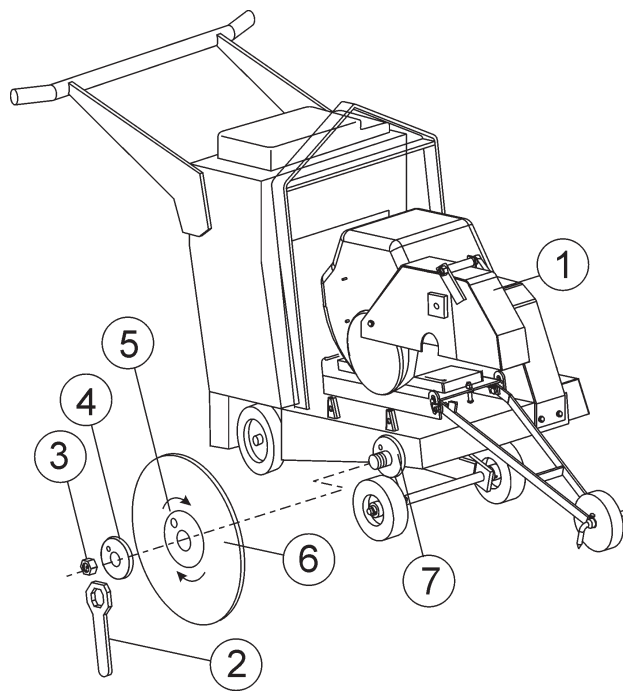

Figure 12. Diamond Blade Placement
- Reference Figure 12 (Diamond Blade Placement) when removing or installing the diamond blade.